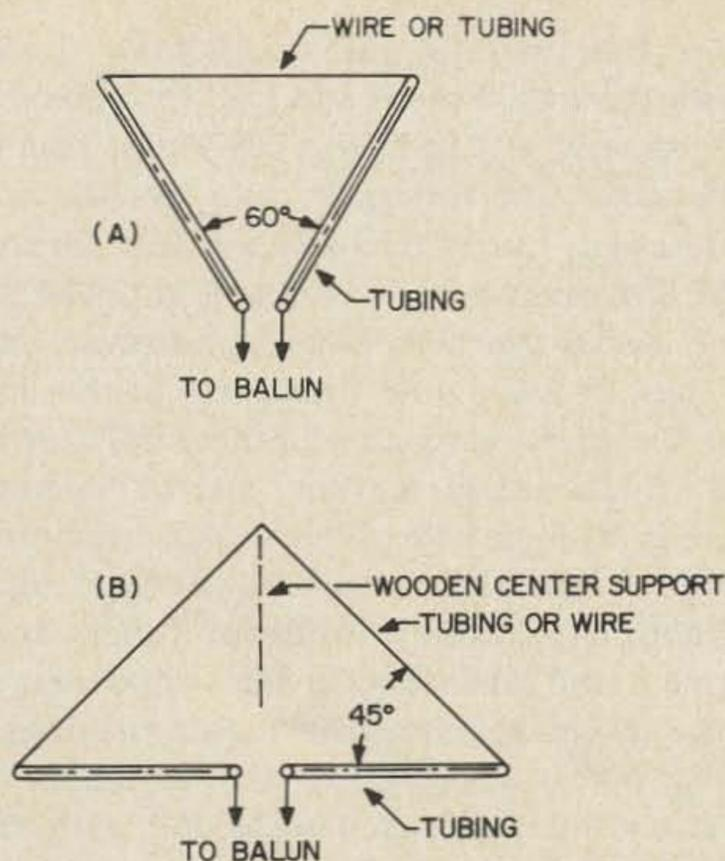

Fig. 4. The forms of triangular loops which lend themselves to single point support at the base.
There are many designs that one can develop from the loop antenna idea if one studies the chart and some of the impedance matching transformers described later. For instance, a "loop" using the forms of Fig. 4(A) or (B) and having a total circumference of from 9 to 12m are quite feasible using a combination of aluminum tubing and heavy wire construction. Such a loop on 15 meters will have a circumference of about a .75 wavelength and hence an impedance of about 40Ω . On 20 meters it is about $.5\lambda$ with an impedance of 12Ω . On 40 meters
The low base impedance of this type of antenna allows construction to be simplified since the base insulator need not be a good RF insulating material. For instance, if the antenna form of Fig. 4(A) is constructed by having each of the V arms being a length of TV mast or other tubing, the base plate where they come together can be a hard wooden board to which they are bolted.